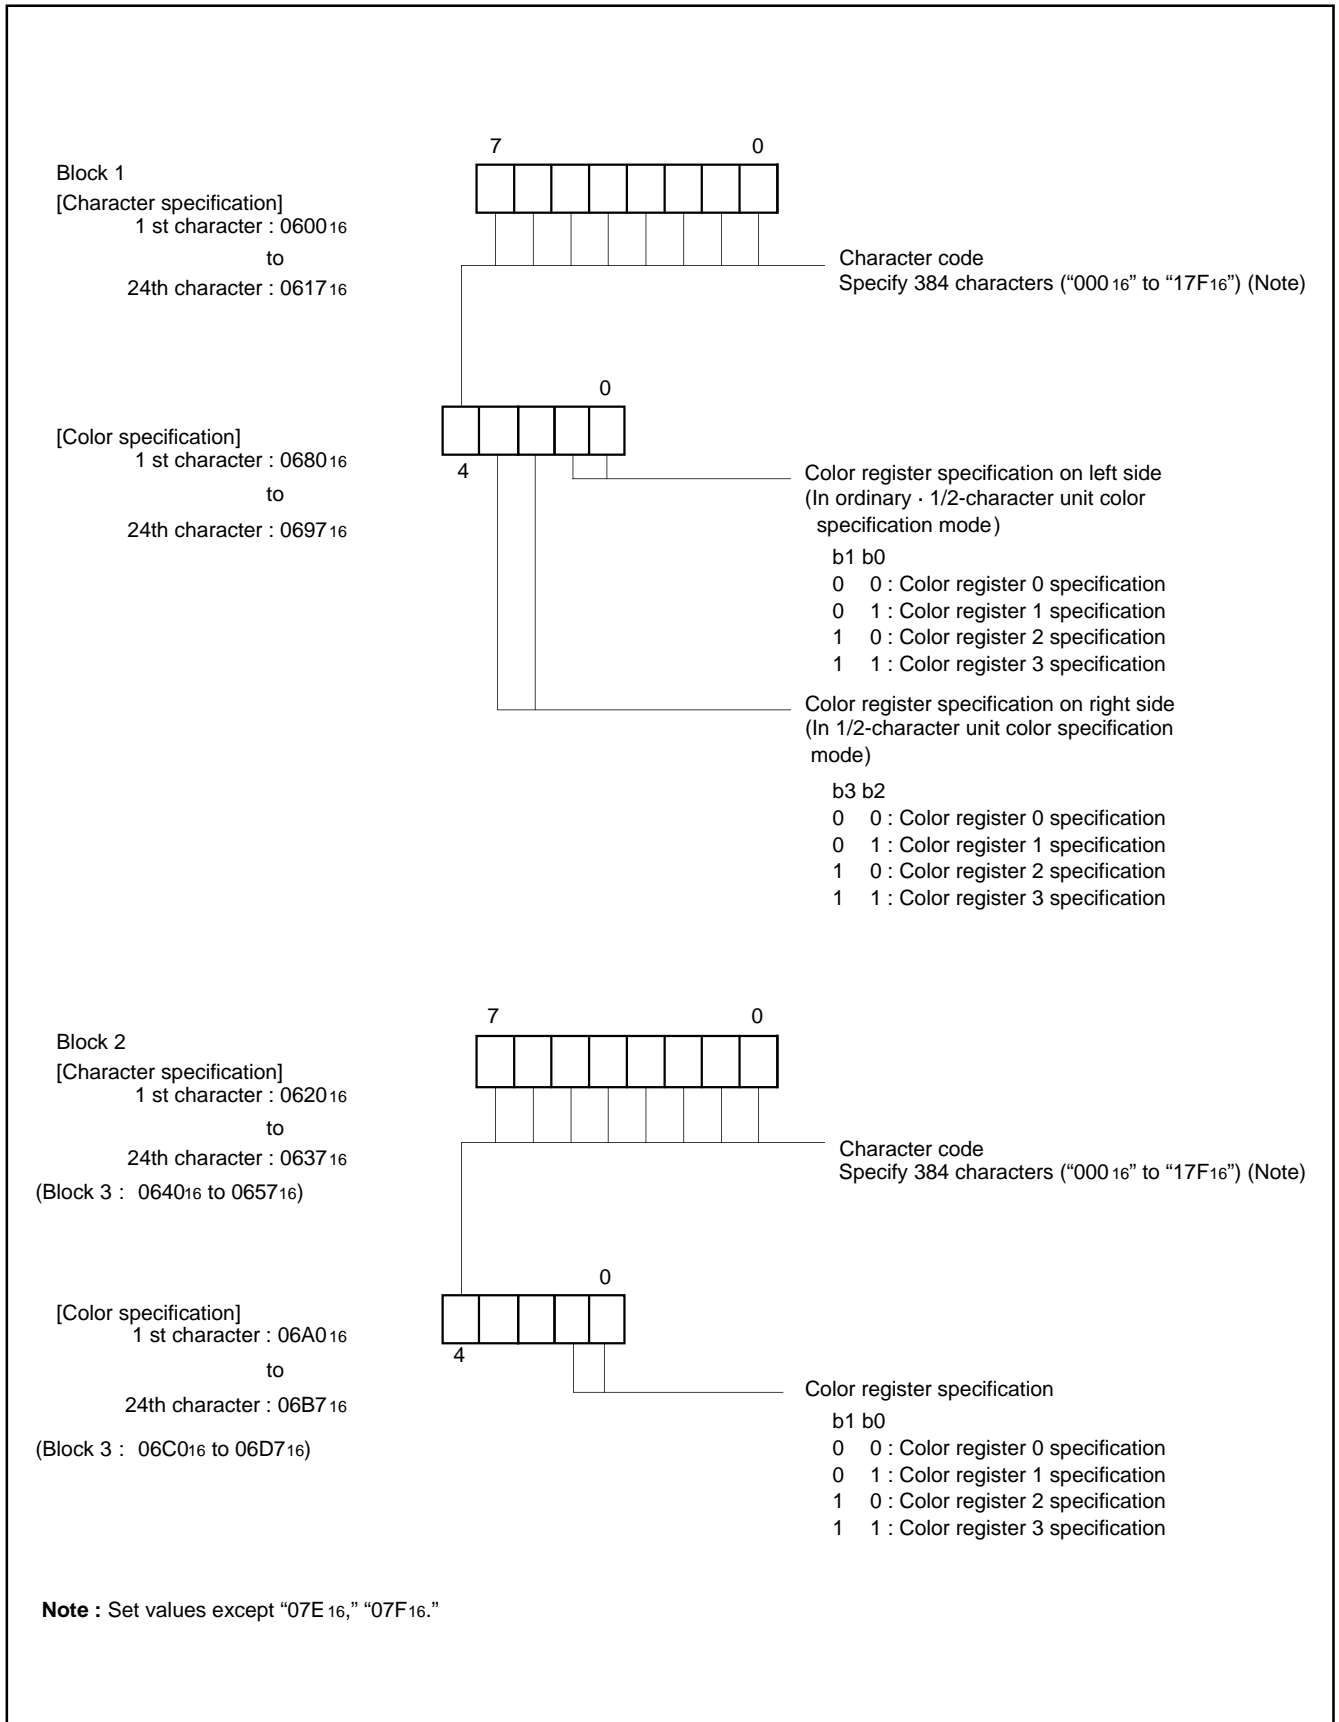

Fig. 53. Structure of RAM for Display
For example, to display 1 character position (the left edge) in block 1, write the character code in address 060016 and write the color register No. to the low-order 2 bits (bits 0 and 1) in address 068016. The color register No. to be written here is one of the 4 color registers in which the color to be displayed is set in advance. For details on color registers, refer to (5) Color Registers. The structure of the CRT display RAM is shown in Figure 53.